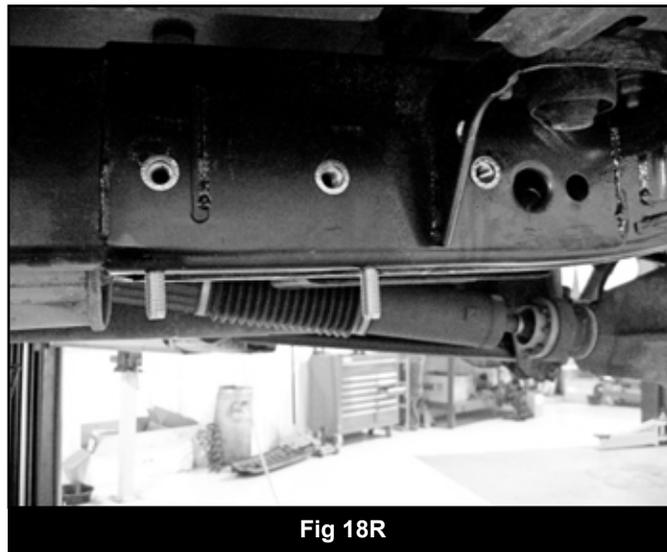

Fig 18R
29. Drill holes at the marks to the same sizes as on passenger's side. Use the drill template to locate the body mount hole. (Fig 18R). The 3 holes into the side of the frame rail will need to be drilled to 11/16" to accept rivet nuts. The hole thru the body mount will be 1/2" and the 2 holes that run from the bottom - up into the frame will need to be 9/16"